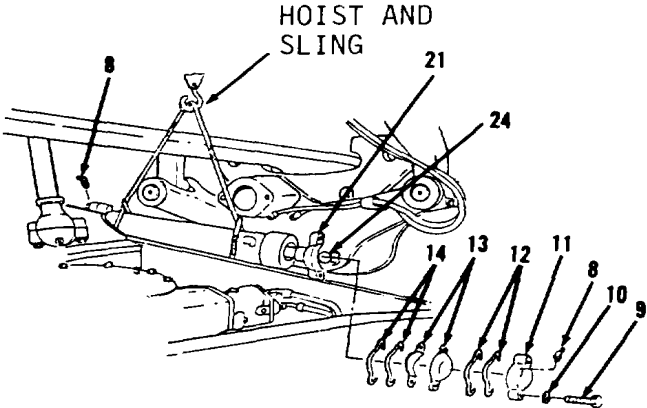
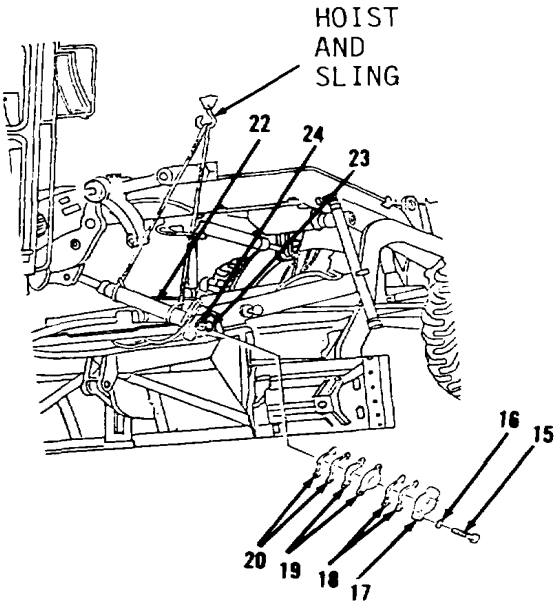

Figure 10-122.
Figure 10-123.
- 6. Remove two fittings (8), bolts (9), lockwashers (10) and cap (11) from rod (21, Figure 10-122).
- 7. Separate rod (21) from ballstud (23).
- 8. Remove shim(s) (12), two inserts (13) and shim(s) (14). Tie shim(s) (12 and 14) together and tag for identification.
- 9. Remove two bolts (15), lockwashers (16) and cap (17, Figure 10-123) from circle assembly.
- 10. Separate cylinder (22) from ballstuds (23 and 24) and lower onto suitable padding with hoist and sling.
- 11. Remove shim(s) (18), two inserts (19) and shim(s) (20). Tie shim(s) (18 and 20) together and tag for identification.